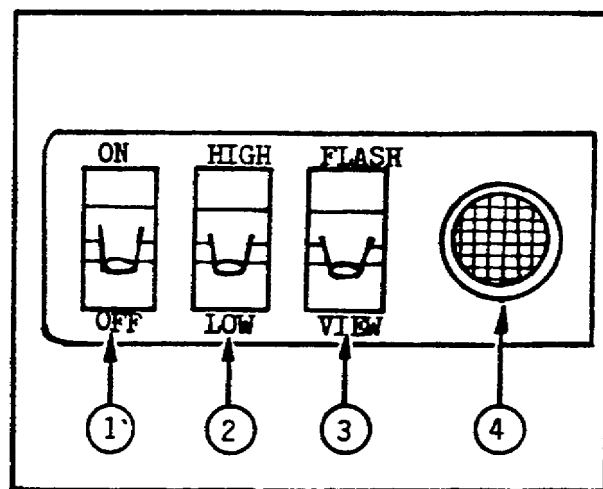

Figure 1-12. Control Panel
i. Control Panel (fig 1-12). The control panel consists of three switches and a ready light. ON-OFF Switch ① - functions as a master switch for the copier. The view light and electronic flash operate only when this switch is in the ON position. HIGH-LOW Switch ② - controls power output of electronic flash. When in the HIGH position, the unit will deliver four times (two f/stops) the amount of light as when in the LOW position. FLASH-VIEW Switch ③ - in FLASH position, the switch completes the circuit for firing the electronic flash with the camera shutter release; in VIEW position, the switch turns on the view light for illuminating the transparency, for focus and framing. READY LIGHT LIGHT ④ - glows when the FLASH-VIEW switch is in the FLASH position, indicating that the copier is ready for operation - the view light is off and the electronic flash is ready to be fired.